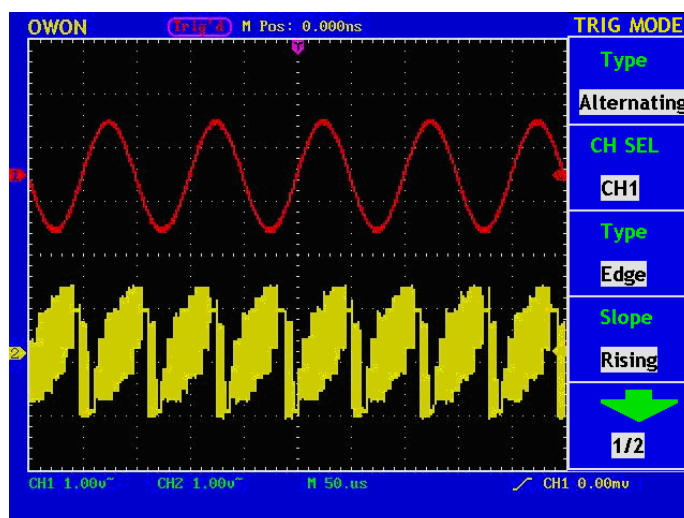

Fig. 43 Alternate trigger Oscillogram
- Acquired waveform refer to Fig.43